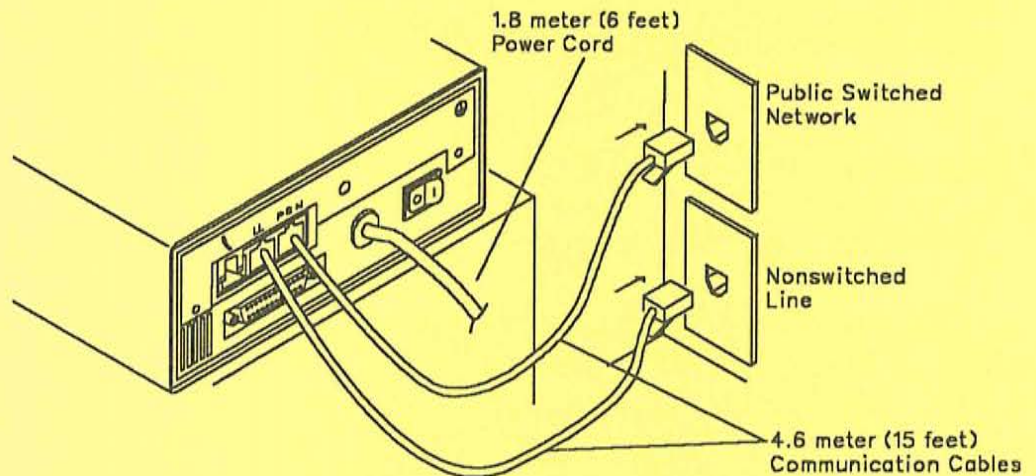

Figure 4-2. Installing Telecommunication Line Cables. Your modem's rear panel may have the PSTN and LL connectors located differently from those shown.
**Step 2** If you are going to use a switched network telecommunication cable, plug it into the 8-pin *PSTN* or *PSN* jack located on the modem's rear panel. If this modem is **not** being installed in the United Kingdom, connect the other end of the cable to the telecommunication line. See Figure 4-2.
**Step 3** If you plan to use a nonswitched line telecommunication cable, plug it into the 8 pin *LL* jack located on the modem's rear panel. If this modem is **not** being installed in the United Kingdom, connect the other end of the cable to the telecommunication line. See Figure 4-2.